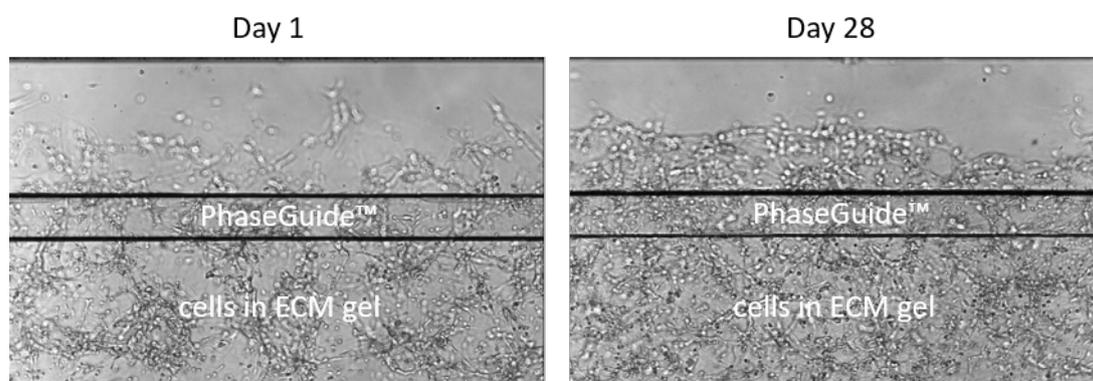

Figure 6: Culture of neural stem cells in Matrigel® in the OrganoPlate® 2-lane
13. An example of a CNS cells-in-gel culture in the OrganoPlate® 2-lane is shown in figure 6.